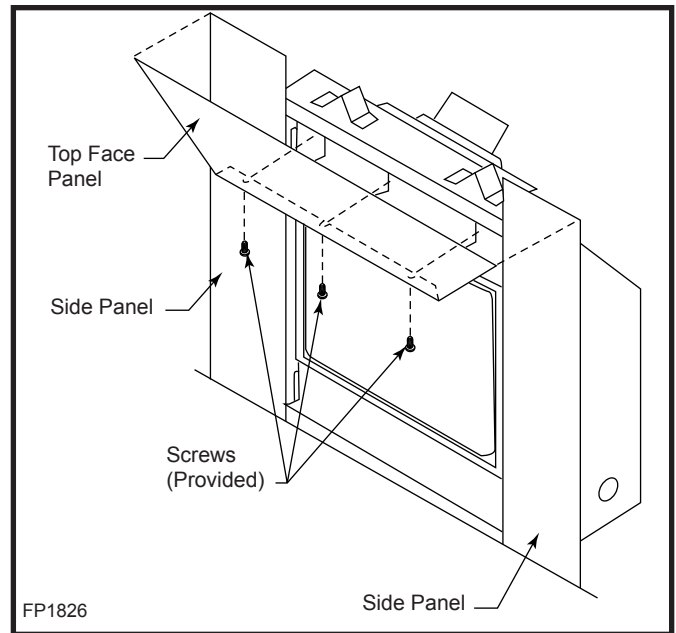

Fig. 32 Place top panel over side panels and secure with three (3) screws.
3. Place top surround panel over the side surround extension panels. Center left to right, then secure with three (3) screws provided. Screw pilot holes are located at the inside top opening of the fireplace directly above the top. (Fig. 32)